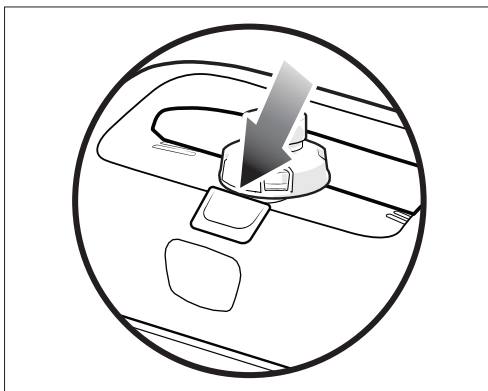

Figure 8. Latch Release Button
1. Push the latch release button on the top of the cleaner (Figure 8) to open the cover.